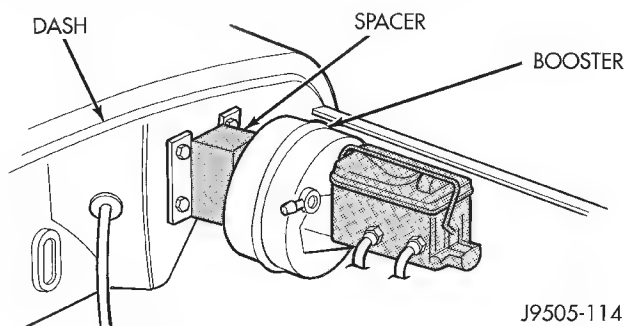

Fig. 26 Booster Mounting (4-Cyl. Models)
(1) Disconnect brakelines at master cylinder. Then loosen lines at combination valve and move lines away from cylinder.
(2) Remove nuts master cylinder to booster studs.
(3) If combination valve has integral bracket, slide bracket off studs and move valve aside.
(4) Remove master cylinder. Slide cylinder off studs and remove it from engine compartment.
(5) Working under instrument panel, remove retainer clip that secures booster push rod to brake pedal.
(6) Disconnect vacuum hose at booster check valve.
(7) On non-ABS models, remove nuts attaching brake booster spacer to dash panel and remove booster (Fig. 26).